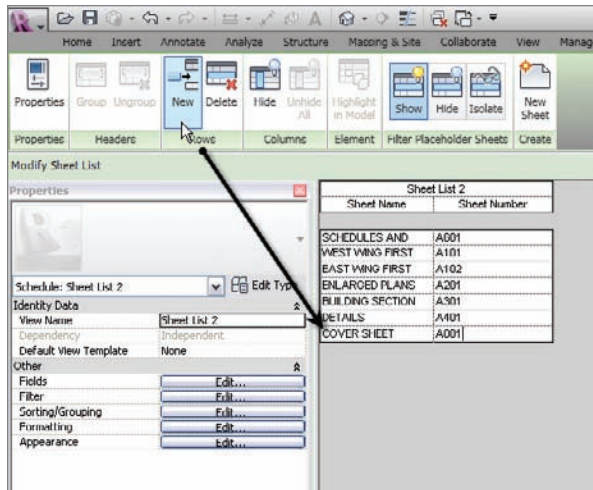

FIGURE 14.25 New to Revit 2011, you can add a placeholder row.
2. On the Rows panel, click the New button, as shown in Figure 14.25.
3. Call the new row COVER SHEET A001, as shown in Figure 14.25.